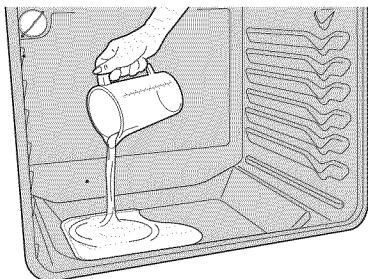

Fig. 47 Adding water before steam clean
3. Pour 8 oz (235 ml) distilled or filtered water onto the oven bottom (Figure 47). Close the oven door.